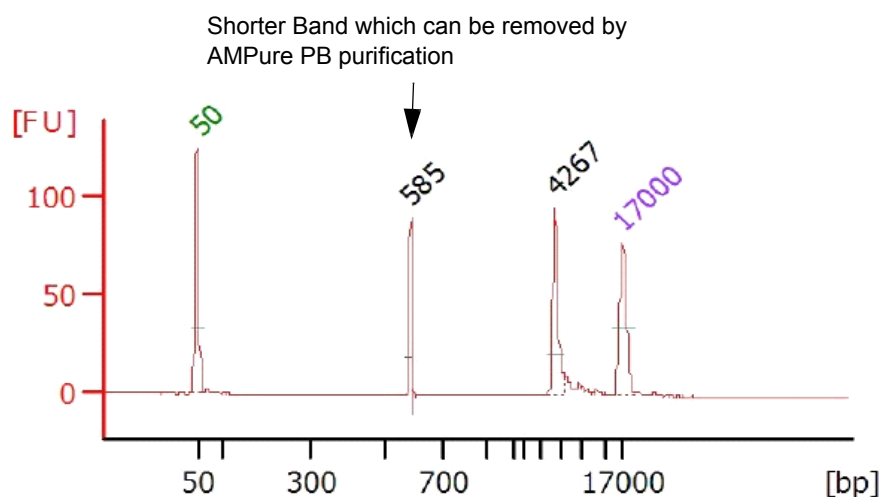

Figure 12 Example of a 4 kb HLA PCR product with contaminating non-specific PCR product (585 bp).
- Primer dimers and non-specific PCR products inflate readings using Qubit[®] or Nanodrop[®] platforms. They must first be removed by purification, figures 12 and 13.